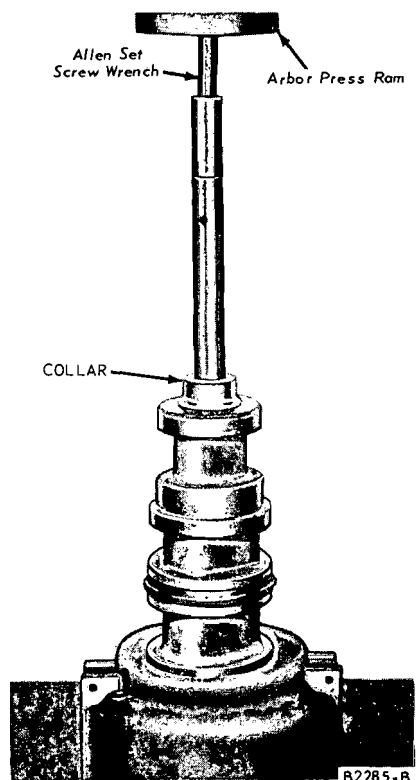

FIG. 8—Shaft Removal
13. Invert the distributor and place it on a support in a position that will allow the distributor shaft to clear the support plate and press the shaft out of the collar and the distributor housing (Fig. 8).